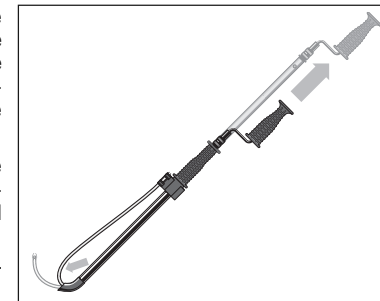

Figure 4 – Retracting the Cable
5. Pull the Crank handle or drill up to retract the cable into the guide tube (Figure 4). Carefully insert the guide tube into the urinal/drain. Tilt the auger for easy entry. The end of the guide tube must be in the drain to properly support the cable and prevent cable whipping. The cable and cutter can damage the porcelain.